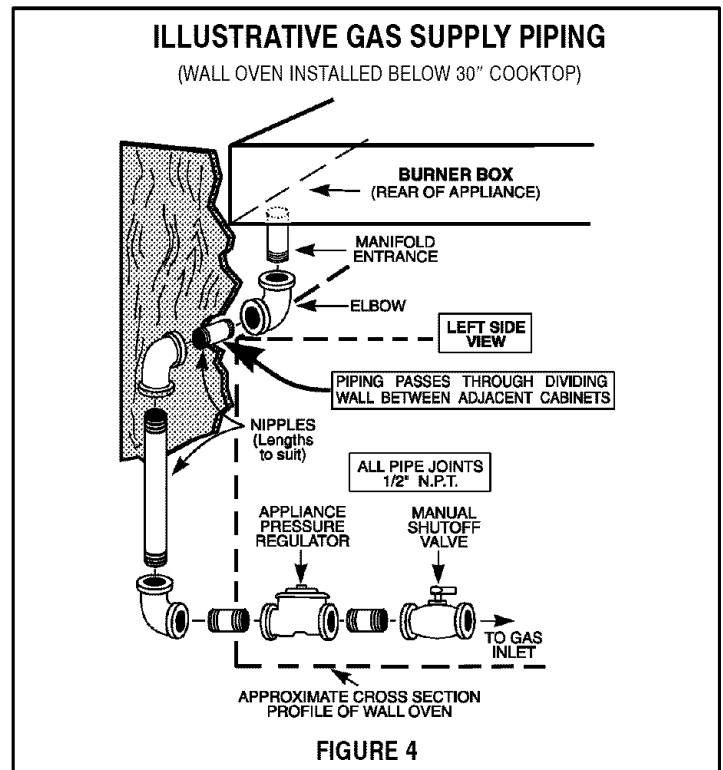

FIGURE 4
Note, regarding Figure 4, above:
- For convenience in service a ground joint union (not shown: locally available) should be included in the piping illustrated in figure 4, in a location most practical for the installation. Generally, a practical location is in the cabinet below this appliance, near the manifold entrance, rather than in an adjoining cabinet.
If the outlet is to be mounted in either a left or right adjacent cabinet, a clearance hole, as described above, must be provided in the dividing wall between the cabinets. Figure 4; page 4, illustrates a typical (left side) dividing wall. The clearance hole (not shown in figure 4) can be located as is convenient in this left wall or in the corresponding right wall.
With the appliance installed the appliance regulator should be located as shown in either figure 3 or figure 4 (pages 3 & 4). Identify the type of appliance regulator and follow the instructions in the appropriate illustration.